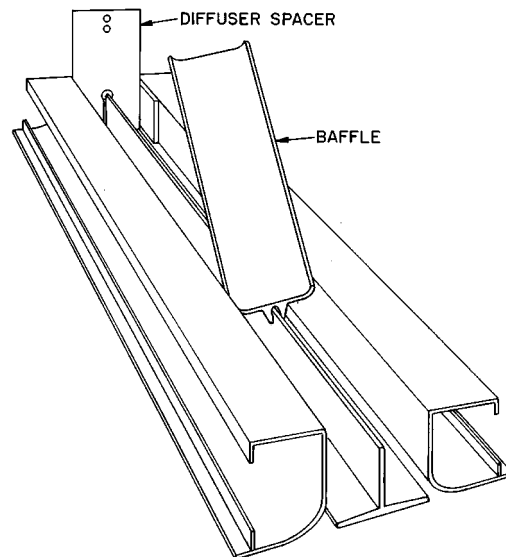

Fig. 4 — Diffuser Baffle Assembly
3. Push the diffuser baffle into the space between side diffusers and down onto the center diffuser at the end away from the unit. Then push down the end close to the unit. The baffle will form around the legs of the diffuser spacer and lock onto the center diffuser. See Fig. 4. Baffle should fill space between side diffusers between unit end and thermostat.